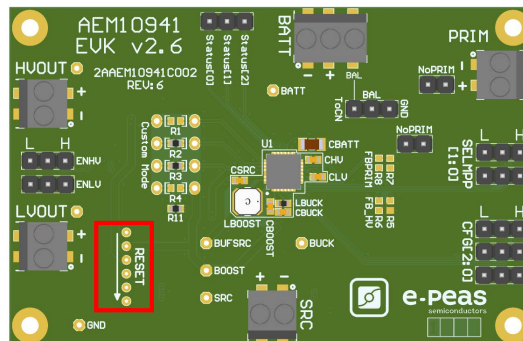

Figure 2: Board reset
1. Reset the board - see “How to reset the AEM10941 evaluation board” on Figure 2.